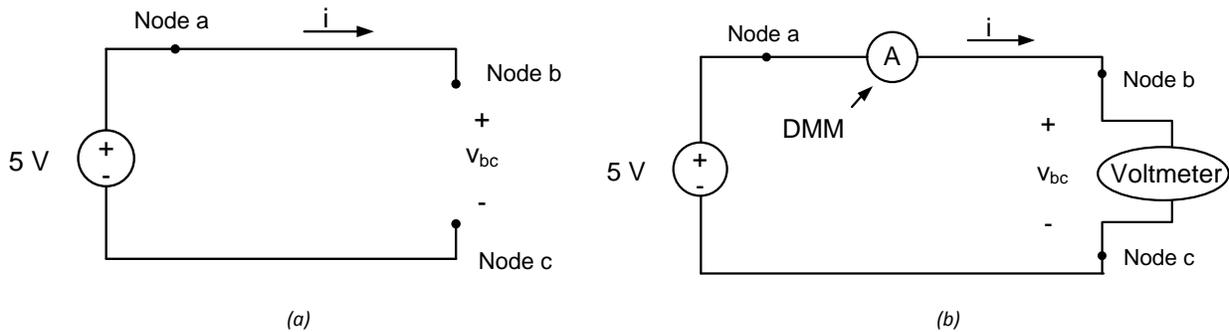

Figure 1. Circuit schematic.
Consider the circuit shown schematically in Figure 1(a). A DC voltage supply of 5V is connected between nodes a and c to provide power to the circuit. We want to know the current, i , out of the power source, and the voltage across the open circuit, v_{bc} . Since there is an open circuit between nodes b and c, we will expect no current to flow through the circuit ($i = 0$ A) and the voltage difference between nodes b and c should be the same as the voltage applied to the circuit ($v_{bc} = 5$ V).
The schematic of Figure 1(b) shows the same circuit, with the measurements which will be made explicitly indicated. A DMM is connected between nodes a and b to measure the current i . We will use one oscilloscope channel, connected across nodes b and c to measure the voltage v_{bc} . (Since the voltage v_{bc} will be a constant value, it is not absolutely necessary to measure this value using an oscilloscope. It would be more common to use a DMM to measure the voltage v_{bc} , if one were available.) You may need to use a combination of jumper wires and
1. Connect the circuit shown in Figure 1(b) except do not connect the power supply to the circuit. Use your DMM to perform the current measurement and channel 1 of your voltmeter to measure the voltage v_{bc} . Note in your lab notebook the voltage and current with no power supplied to the circuit.